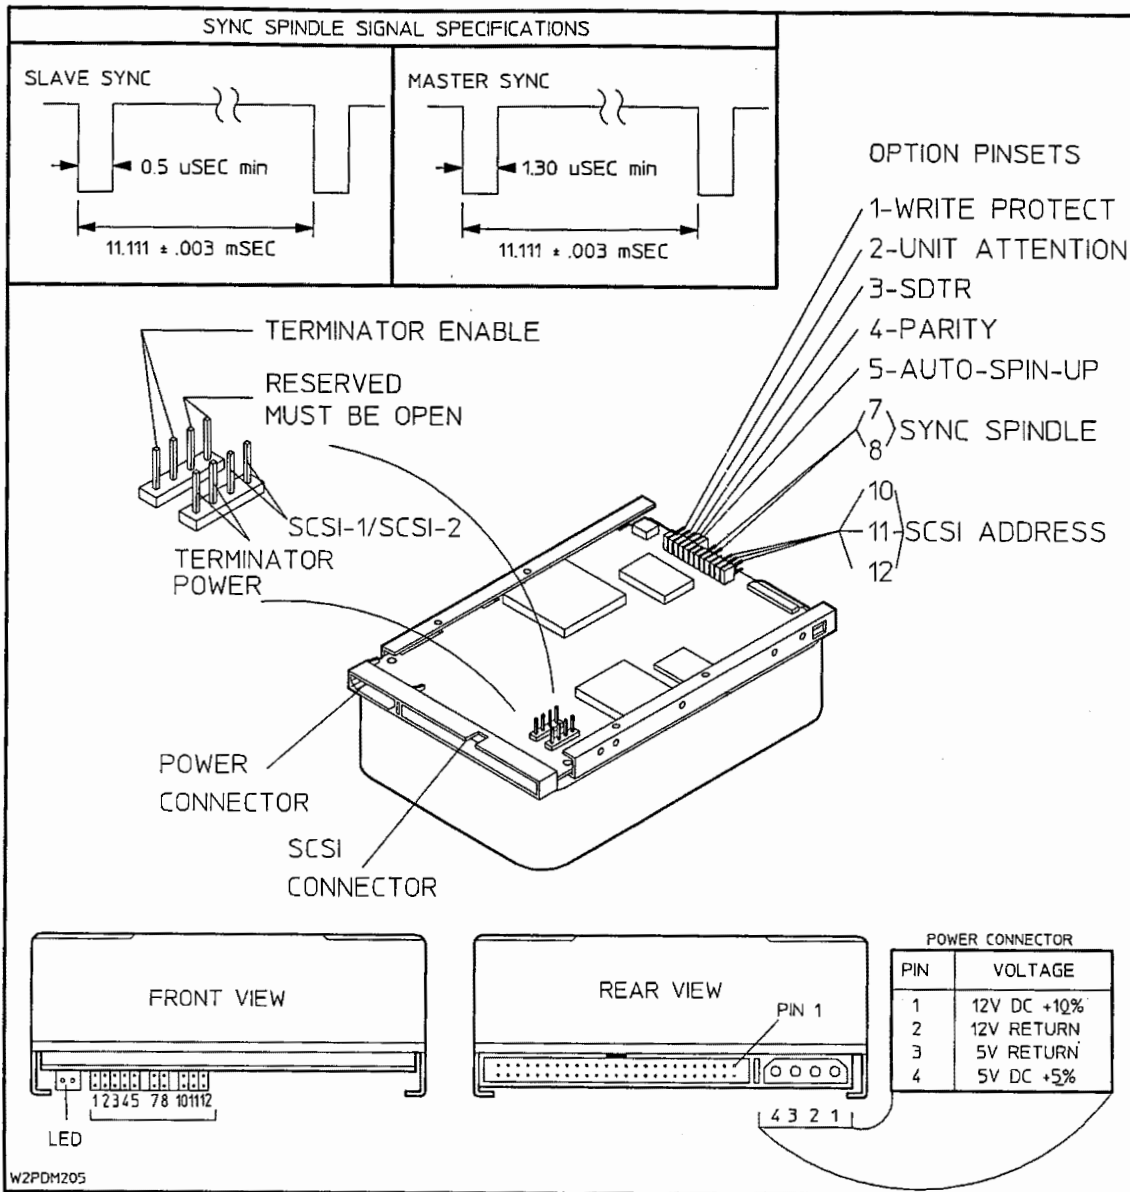

Figure E-2. Narrow, Single-Ended: Interface, Address and Option Connectors
Refer to Figure E-2 front view for pinset locations.
The single-ended drive is shipped with active terminator integrated circuits installed. When installing multiple drives on the SCSI channel, the terminators must be disabled on all but the last drive in the chain. When the Terminator *Enable* jumper is installed, the terminators are connected to the SCSI connector; when removed, the terminators are disconnected from the SCSI connector. Refer to Figure E-2 for the Terminator *Enable* jumper location.
Active terminators should be powered by Terminator voltage (TermPwr) whenever the drive is connected to an active SCSI bus to avoid exceeding the bus high-state input current specification. The Terminator *Power* jumper determines the TermPwr source as listed below. Refer to Figure E-2 for the Terminator *Power* jumper location.
- All odd numbered pins, except pins 25 and 29, must be connected to ground. Pin 25 should be left open. Pin 29 can be used for Synchronized Spindle operation. Refer to Table E-1 and Figure E-2.